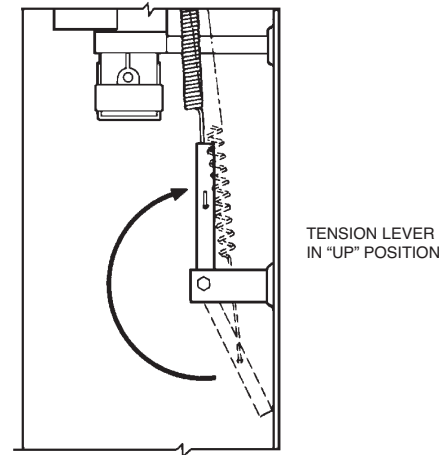

FIGURE 16
19. Raise the tension lever to “UP” position. See Figure 16.